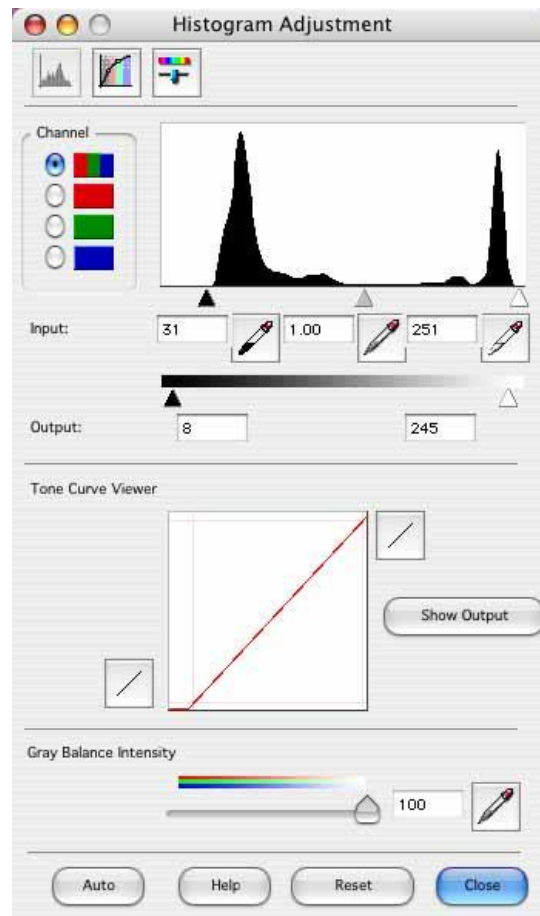

Figure 5. Setting the Histogram in the Scanning Interface
- Adjust the levels by moving the sliders to each end point of the histogram (*Figure 5*). This sets the highlights and the shadows of the scan. It is a redistribution of the pixels, which can improve the image quality.